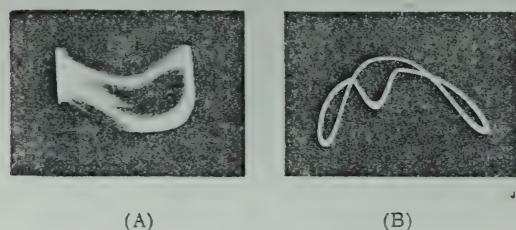

Figure 2-5. Typical Oscillogram, Amplifier Distortion
f. Figure 2-5 shows oscilloscope presentation obtained (A) while measuring distortion in amplifier where distortion level is of same order of magnitude as hum, and (B) while measuring distortion in amplifier driven at point of overload. Notch in pattern is caused by small grid current and will increase sharply with small increase in drive.